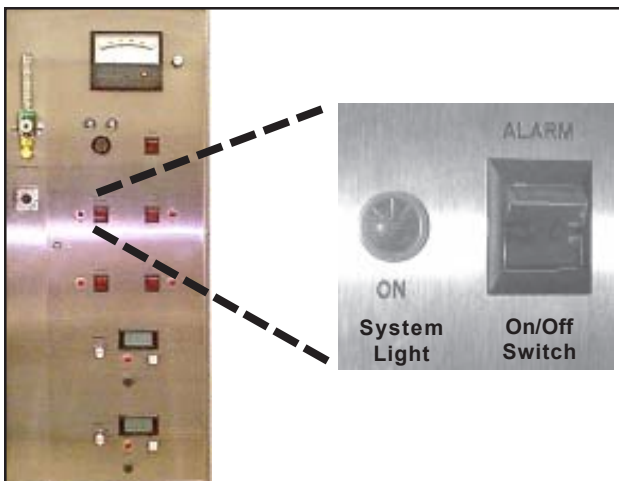

Figure 58. Alarm Controls
3. Push the alarm on/off switch to On. The amber light in the switch comes on (Figure 58). The alarm system is now in the operating mode.